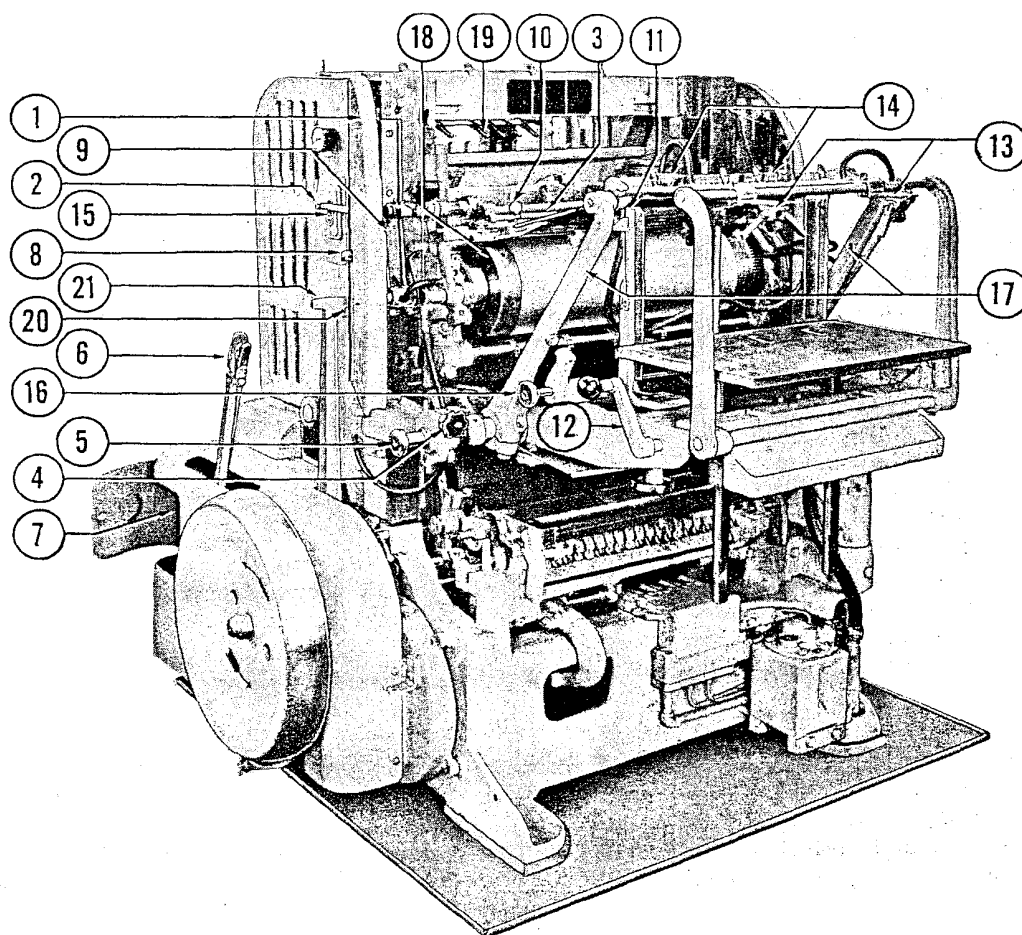

Figure 11—Starting Press
a. **PROCEDURE FOR STARTING PRESS.** (See figure 11:) Before starting press, turn flywheel manually one complete cycle to be sure that there is clearance for all moving parts.
(1) Make certain power is off by opening left end cylinder guard (1), thereby tripping the "STOP" (red) motor control push-button (2).
(2) Attach transfer table (3). (Refer to paragraph 1, page 14).
(3) Lock feeder (4) in operating position (refer to paragraph 7, page 14) and then pull feeder control air valve handle (5) to its out position.
(4) Release belt-tightener lever (6) (extreme left position).
(5) Install 3,000 I.P.H. (smallest) change pulley (7). (Refer to paragraph g, page 21).
(6) Turn automatic stop control knob (8) so that red button is in its down position.
(7) Close the left end cylinder guard (1).
(8) Check that side-guide shifting cam (9) is positioned for left side register and then set left side guide (10) at  $9\frac{1}{2}$ . (Refer to paragraph 2, page 14).
(9) Set left side front pile guide (11) so that "0" alignment marking is at  $9\frac{1}{2}$ . (Refer to paragraph 1, page 12). Position opposite pile guide to suit size of sheet to be used for check-run (11" x 17" medium weight stock is recommended).
(10) Lower feeder pile table by turning crank (12) and then place a few sheets of stock on table.